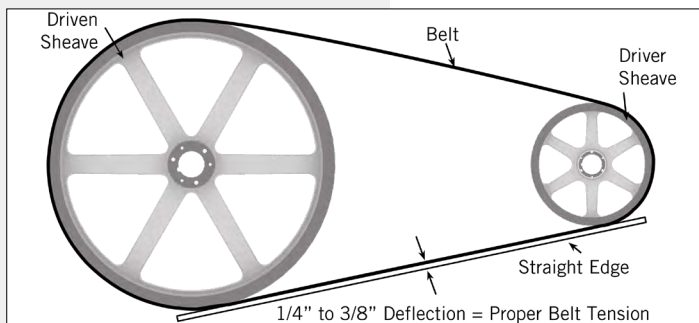
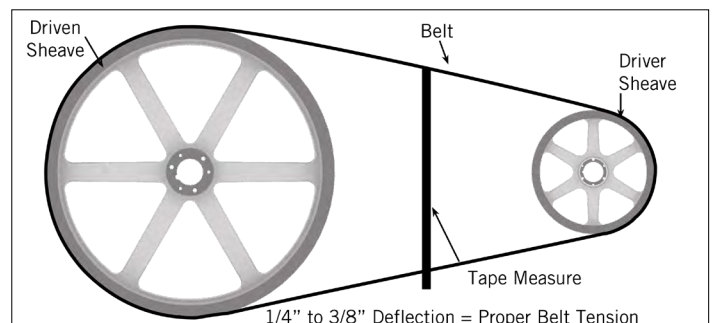

Figure 4a. Belt Tension with a Straight Edge
Figure 4b. Belt Tension with a Tape Measure
- Place a straight edge along the belt from sheave to sheave as shown in **Figure 4a**, or use a tape measure as shown in **Figure 4b**, to measure belt deflection.
- There is adequate belt tension if the belt deflects between 1/4" and 3/8" as shown in **Figures 4a** and **4b**.